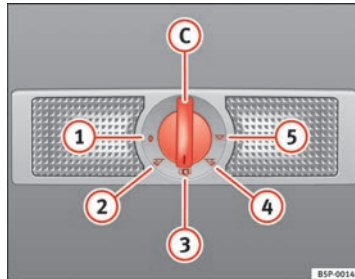

Fig. 80 Interior roof trim: rear interior lights and reading lights.
The switch ⇒ Fig. 80 C is used to select the following positions:
In switch position ⇒ Fig. 80 ①, the interior and reading lights are switched off.